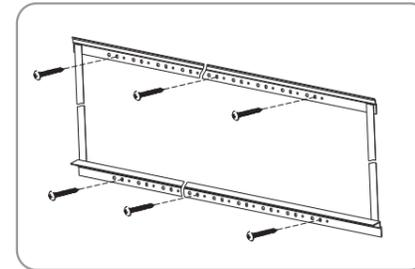

figure 11
- a. Wood wall installation: fix the top and low bracket on the wall using the  $\phi 5 \times 60$ mm wood screw (3 screws on each bracket) (figure 11).